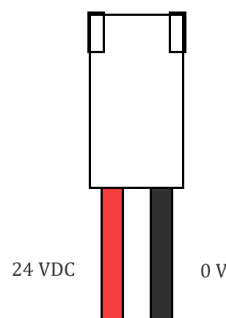

Figure 3.3 – Power connector for the camera
- g) The two pin connector shown in Figure 3.3 makes 24 VDC available for camera power connection; a suitable converter from 24V to your camera's required voltage will need to be provided.